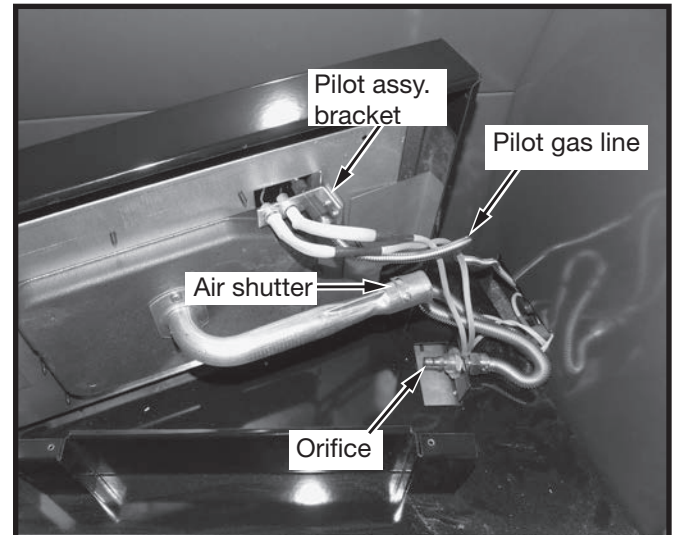
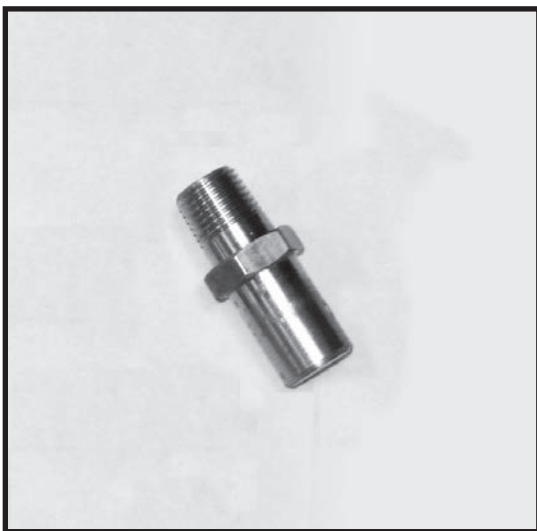
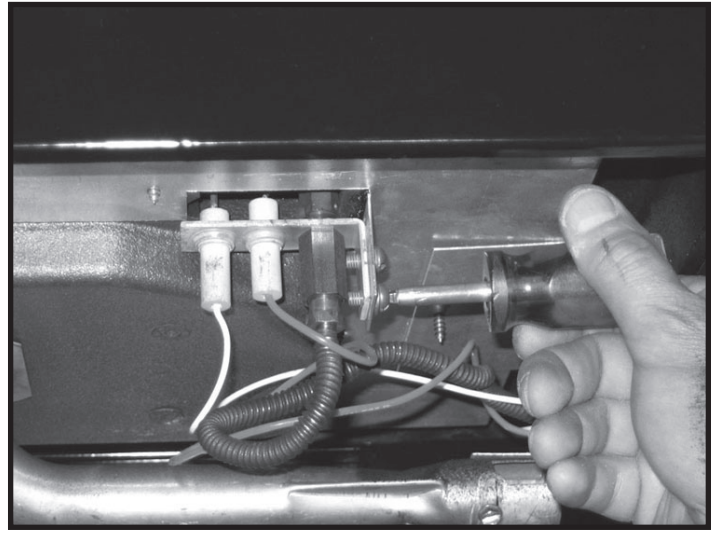

Figure 29: Underside of burner.
Figure 30: Orifice.
Figure 33: Removing pilot assembly.
7. Gently lift up the burner tray from its supports while sliding it to the left to disengage the burner tube from the orifice. Lift the tray, turn it on its side and lay it on its edge to expose the orifice and the pilot assembly (Figure 29). Remove the pilot assembly bracket with its wires and pilot gas line attached while the burner kit is on its side (See "Figure 33" on page 16).
8. Using a 1/2" wrench, undo the natural gas burner orifice (Figure 29) and replace with the propane gas orifice that comes with the conversion kit (Figure 30). Apply a small amount of pipe joint compound to the threads of the propane burner orifice to ensure a good seal, before screwing it into the fitting.
10. Remove the 2 screws holding the pilot assembly in place with a short screwdriver (Figure 33).